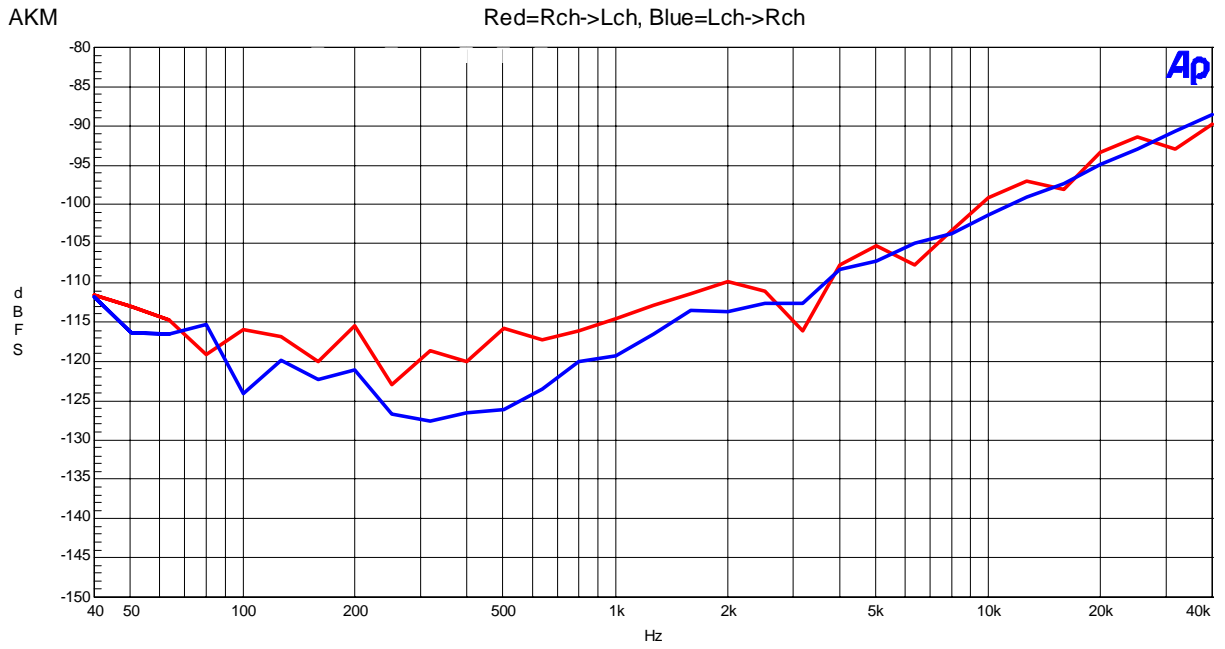

Figure 22 Crosstalk (Upper = Rch, Lower = Lch)
- Figure 22 Cross-talk (Input level=0dBFS)